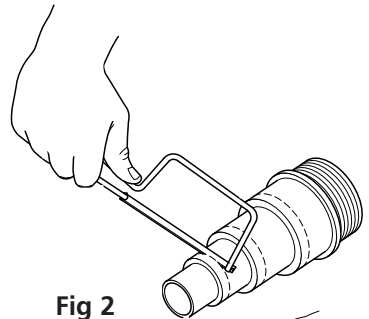

Fig 2
- Straight multi-hose adapter for hoses 1 1/2" (40mm) , 1 1/4" (32mm) , 1" (25mm) , 3/4" (20mm).The adapter should be cut off to the required hose diameter (see fig 2) and screwed